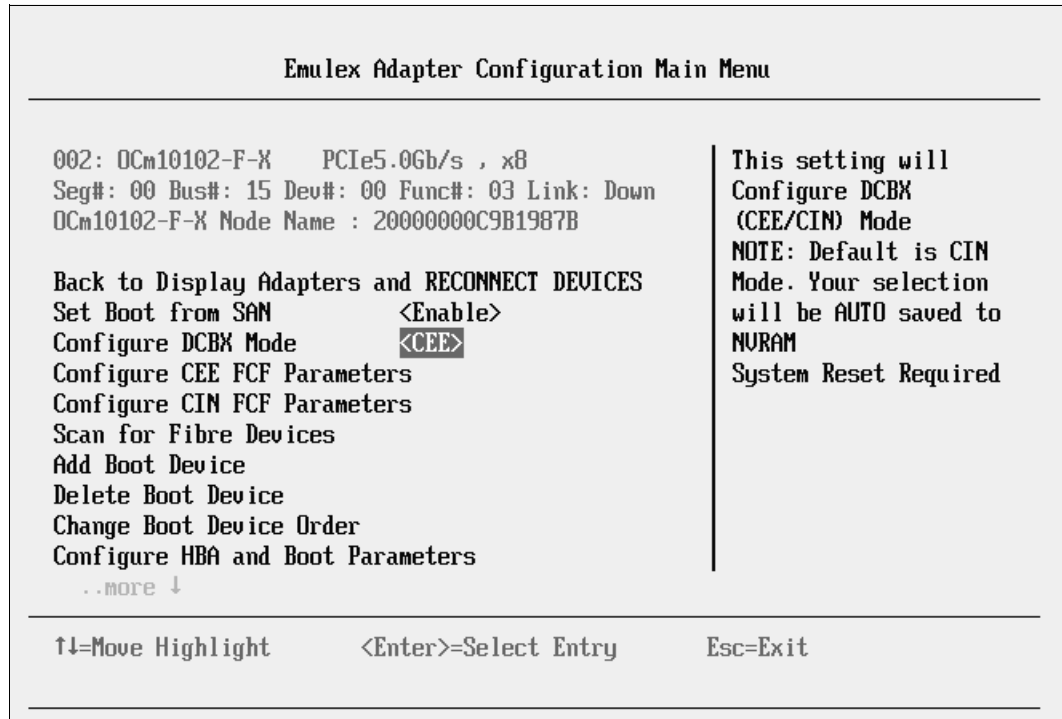

Figure 9-119 Emulex Adapter Configuration Main Menu panel
3. In the Emulex Adapter Configuration Main Menu panel (Figure 9-119):